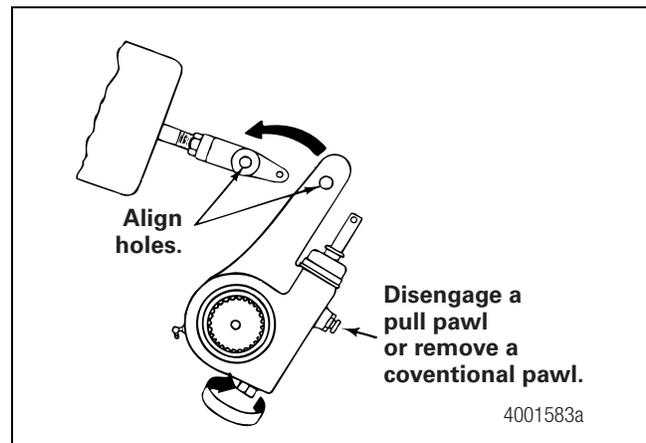

Figure 6.6
10. Disengage or remove the pawl. Turn the manual adjusting nut to align the holes in the slack adjuster arm and the clevis. Figure 6.6.